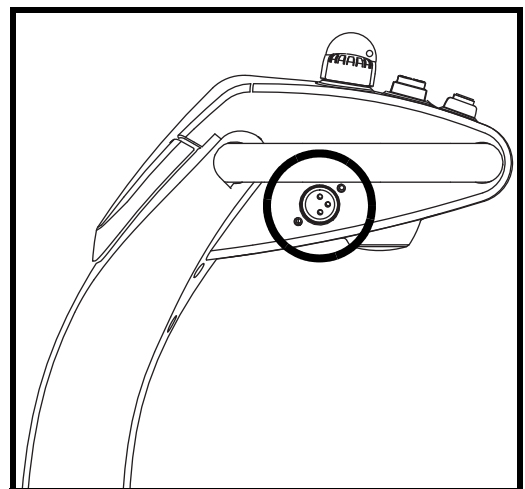

Figure 6. Off-board Charger Port
The off-board charger power cord plugs into this port when charging the batteries. See figure 6.
4. Plug the 3-pin charger power cord into the off-board charger port. See figures 6 and 12.